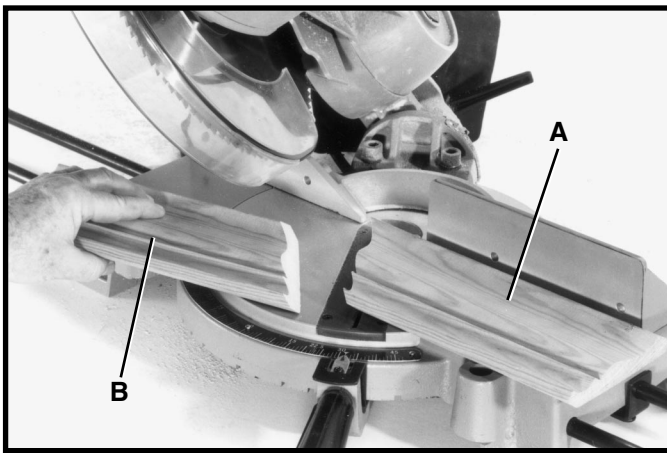

Fig. 37
3. Place the crown moulding on the table with the **CEILING EDGE** of the moulding against the fence, and make the cut, as shown in Fig. 37. **NOTE:** The piece of crown moulding used for the outside corner will always be on the right hand side of the blade, as shown at (A) Fig. 37. The piece of crown moulding used for the inside corner will always be on the left hand side of the blade, as shown at (B) Fig. 37.